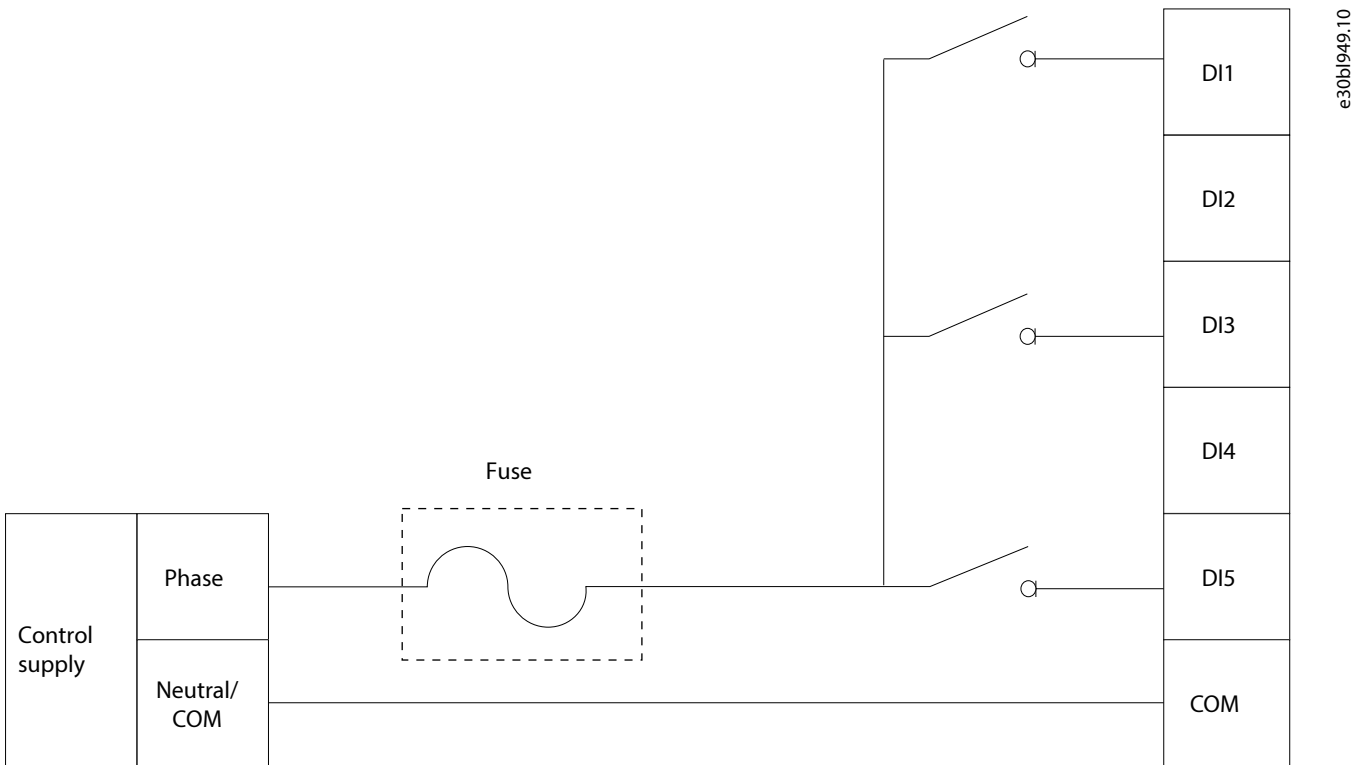

Figure 53: Wiring Configuration for Operation at 2000–4400 m (6560–14400 ft) Altitude using 3 Inputs
- Inputs 1, 3, and 5 must be used, and the same phase must be used for all inputs. See Figure 53.